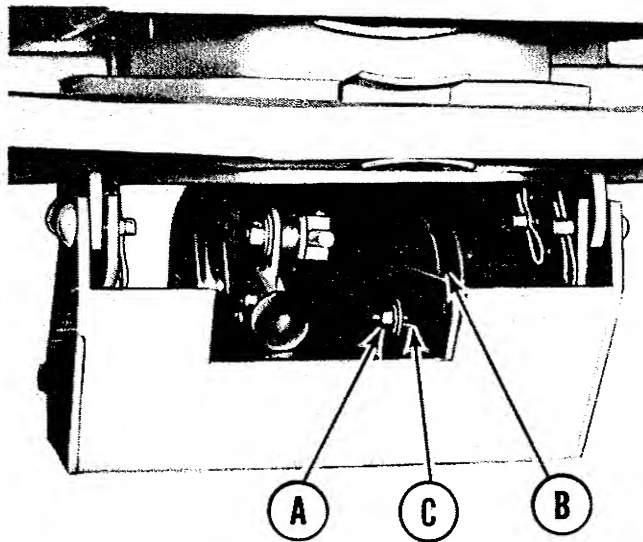

Figure 13. Idler pulley adjustment used to center mower drive belt between tractor frame and battery.
- b. See figure 13. Loosen nut (A) so idler pulley (B) can be moved forward or rearward in slot (C).
- d. See figure 13. Tighten nut (A) securely to prevent idler pulley (B) from moving out of adjustment. Nut (A) should be torqued to 50 foot pounds.